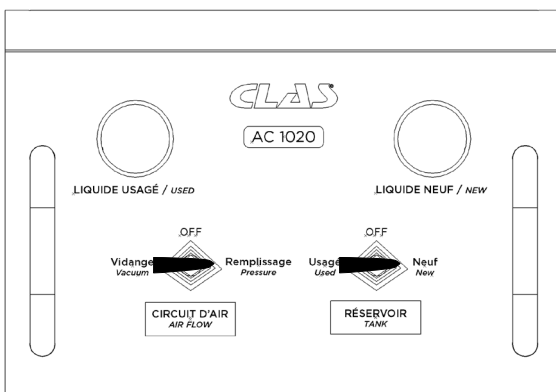

Fig. 16
- Open the air supply valve, then set the "Tank" valve to "New" and the "Air Flow" valve to "Pressure" (Fig 16).